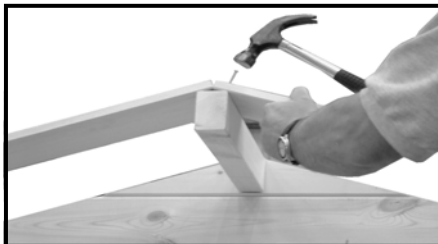

Fig I3
3. The first roof board is now ready to be positioned (fig I3). **Bevels downwards**
5. Start at the front, place the board level with the end of the roof bearers and central over the middle bearer to produce an even overhang (fig I3).